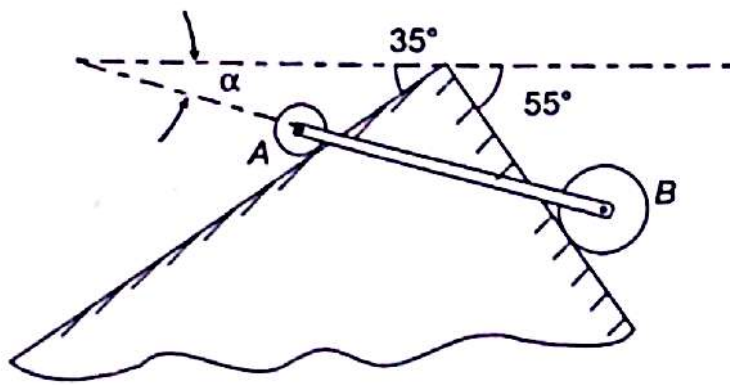

Fig. 3.52
- 3.6 Two wheels A and B of weight W_A and W_B respectively are connected by a rod AB of negligible weight and are free to roll on the surfaces shown in the Fig. 3.52. Determine the angle α for the rod, so that rod remains in equilibrium. Take $W_B = 2W_A$.